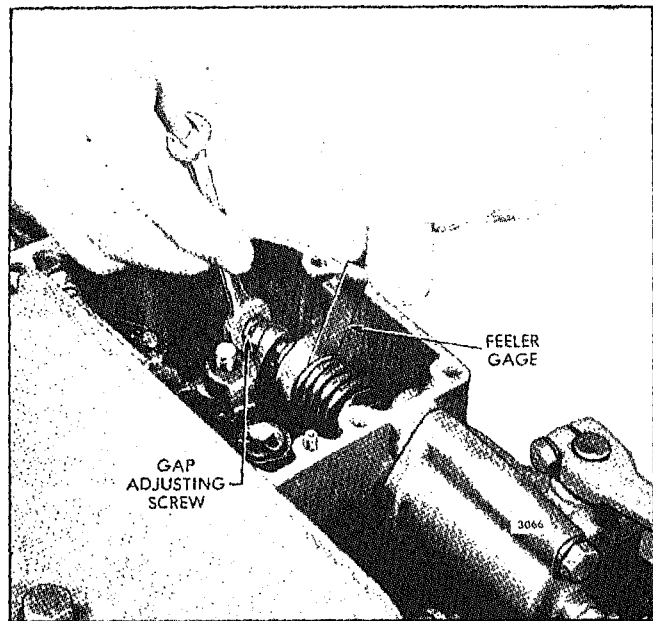

Fig. 2 - Adjusting Governor Gap
5. Insert a .006" feeler gage between the spring plunger and the plunger guide as shown in Fig. 2. If required, loosen the lock nut and turn the adjusting screw in or out until a slight drag is noted on the feeler gage.